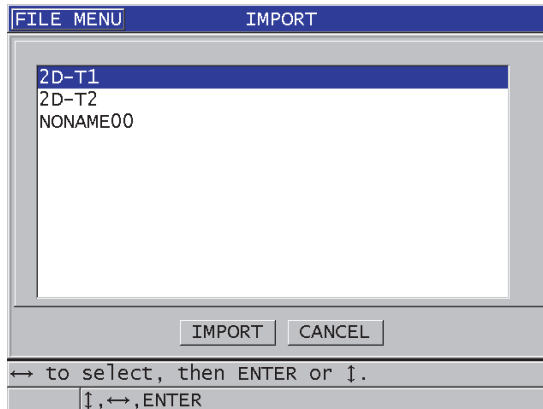

Figure 14-9 Example of the IMPORT screen
6. In the **IMPORT** screen (see Figure 14-9 on page 274):